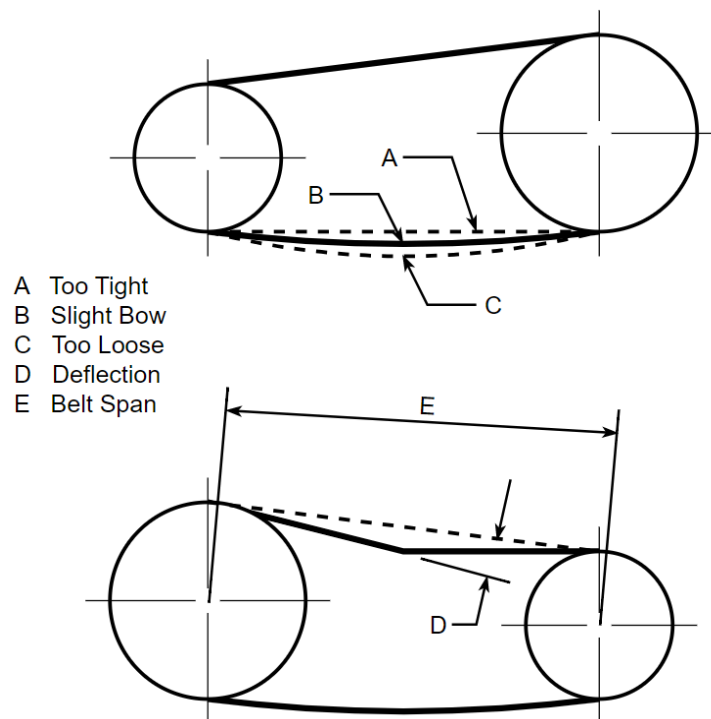

Figure 7-2: Drive belt deflection
5. Use a belt tensioning tool to determine the belt deflection in a static condition. Reference **Figure 7-2** and **Table 7-3** for requirements.